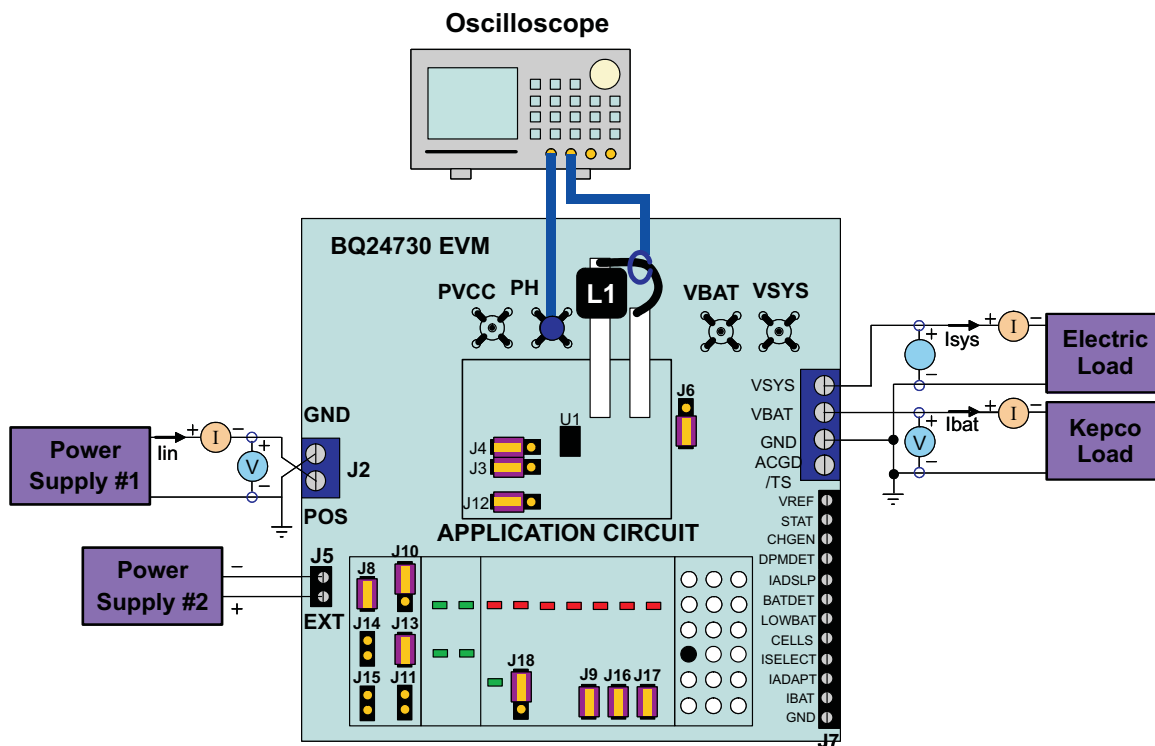
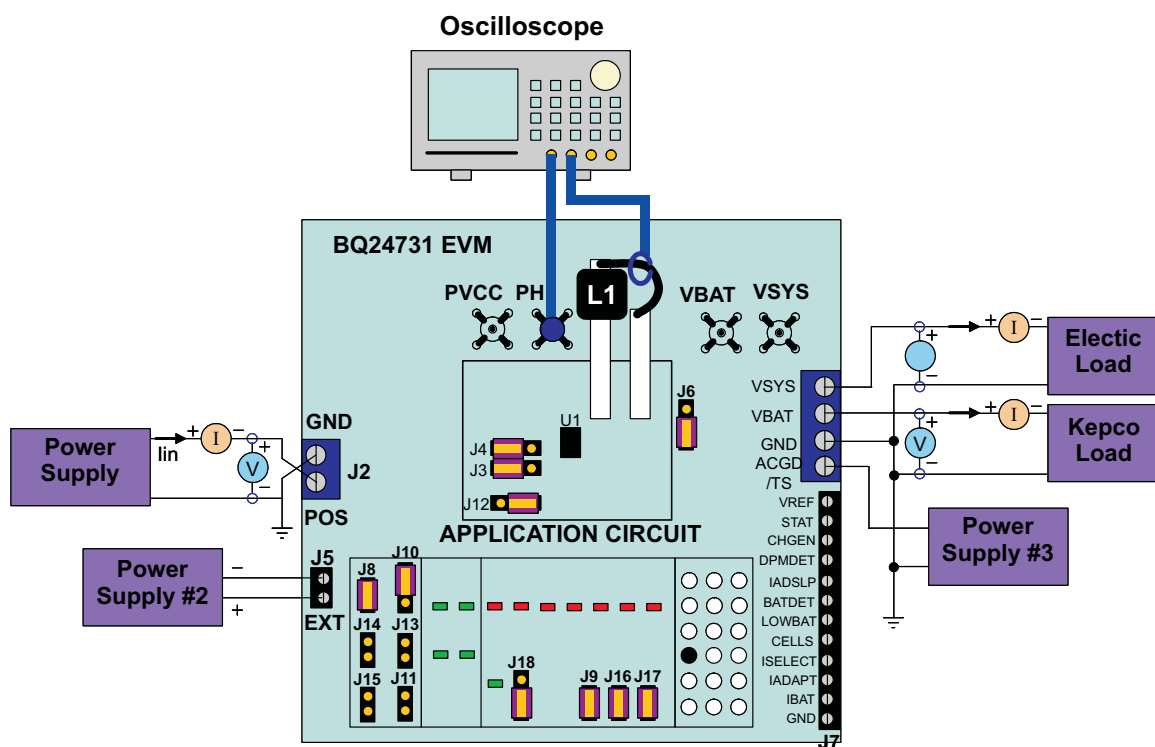

Figure 4. Test Setup for bq24730EVM
Figure 5. Test Setup for bq24731EVM
2. Connect the output of the Kepco load in series with a current meter (multimeter) to J1 (VBAT, GND). Make sure a voltage meter is connected across J1 (VBAT, GND). Turn on the Kepco load. Connect the output of the electronic load in series with a current meter (multimeter) to J1 (VSYS, GND). Make sure a voltage meter is connected across J1 (VSYS, GND). Turn on the power of the electronic load. Set the load current to $2\text{ A} \pm 50\text{ mA}$ but disable the output. The setup is now like Figure 4 for bq24730 and like Figure 5 for bq24731. Make sure $I_{bat} = 0\text{ A} \pm 10\text{ mA}$ and $I_{sys} = 0\text{ A} \pm 10\text{ mA}$.